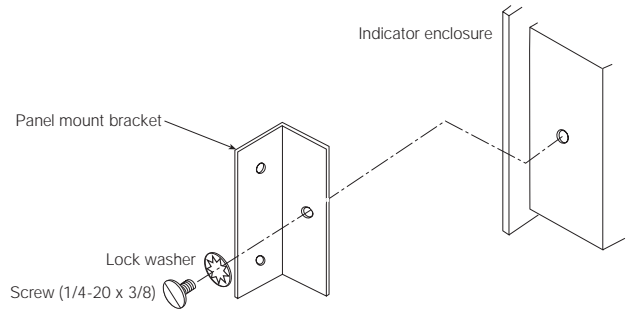

Figure 4. Attaching Panel Mount Brackets to the Enclosure
11. Use the 1/4-20 x 3/8" pan-head screws and lock washers provided to attach the panel mount brackets to the sides of the indicator as shown in Figure 4.